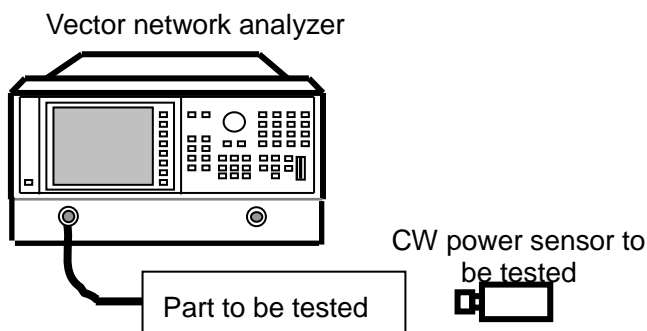

Fig. 8.6 CW Power Sensor SWR Test Block Diagram
- 1) Connect the test instrument as shown in Fig. 8.6. Power on and reset the instrument, and warm it up for at least 30 min.